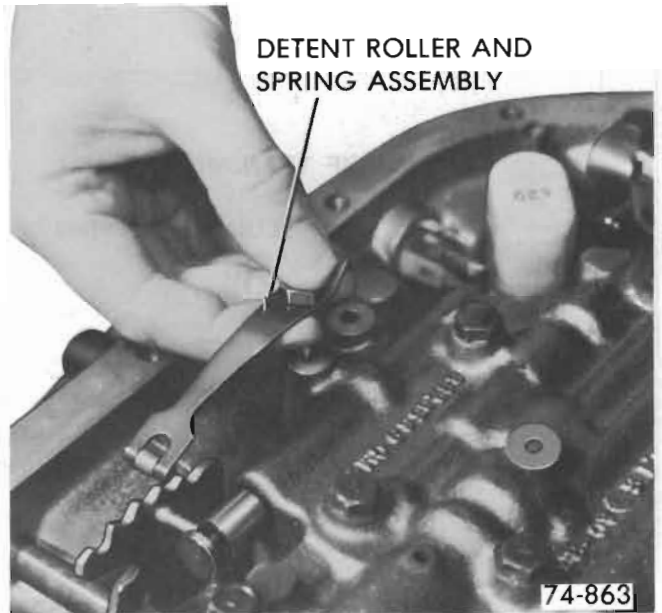

Figure 76-59
3. Remove valve body attaching bolts and detent roller and spring assembly. See Figure 76-59.